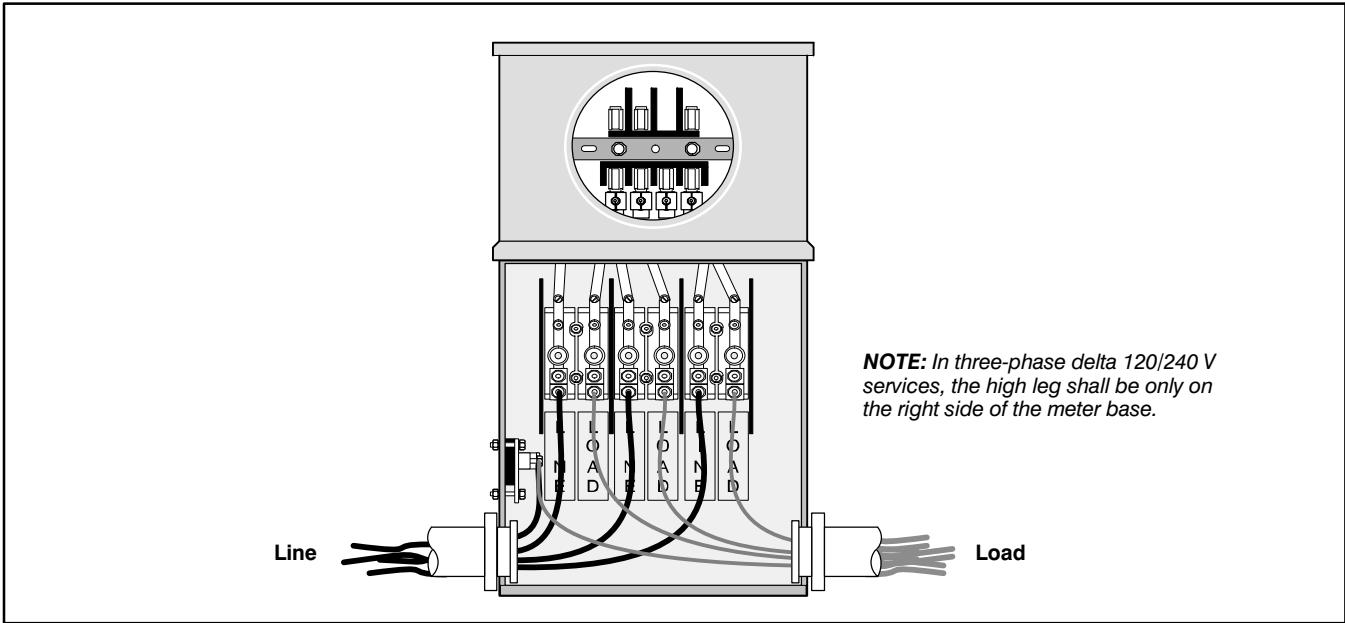

Figure 23 Typical safety socket
- Where *safety sockets* are used, circuit-connecting nuts shall be properly torque (see *Figure 23*).